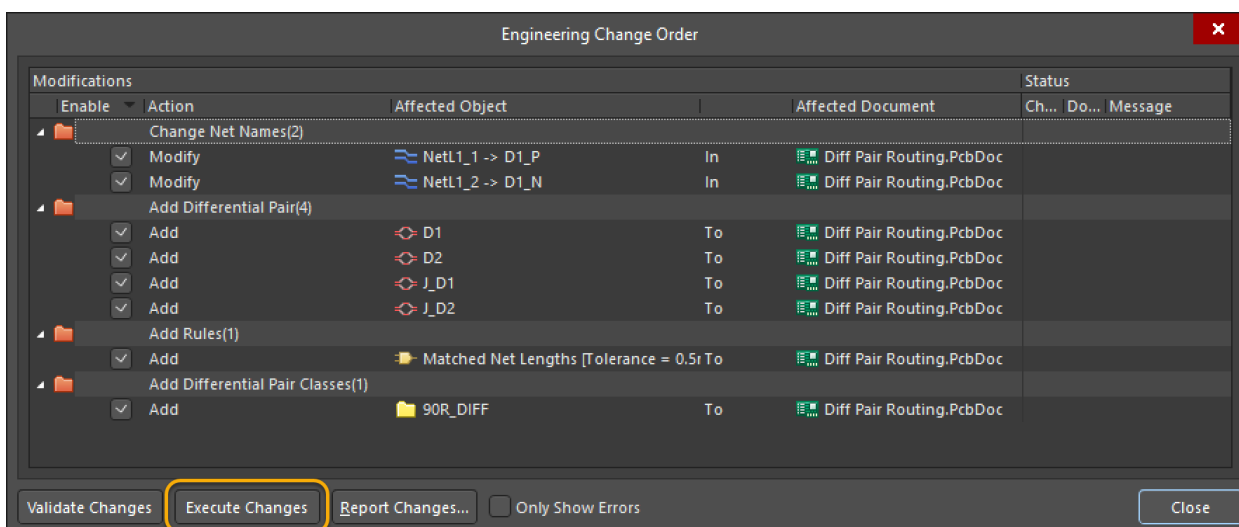

Figure 11. Engineering Change Order
17. Select **Execute Changes** to transfer the schematic updates to the PCB document, Figure 11.